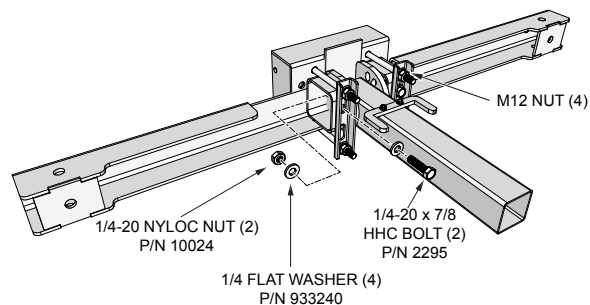

Figure 6. Attach Spacers
3. Secure spacers to clamping brackets (Figure 6) using 1/4-20 nyloc nut (P/N 10024), 1/4-20 x 7/8 HHC bolt (P/N 2295), and 1/4 flat washers (P/N 933240). Tighten nuts securely.
4. To complete installation, securely tighten the four clamping bracket M12 nuts as shown in Figure 6